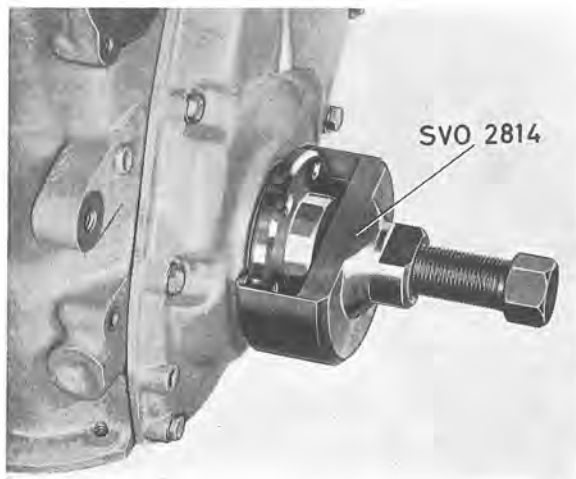

Fig. 2-36. Removing polygon hub
3. Remove the center bolt and take off the polygon hub with puller 2814, see Fig. 2-36. (First check to see whether it is possible to pull off the polygon hub by hand.)